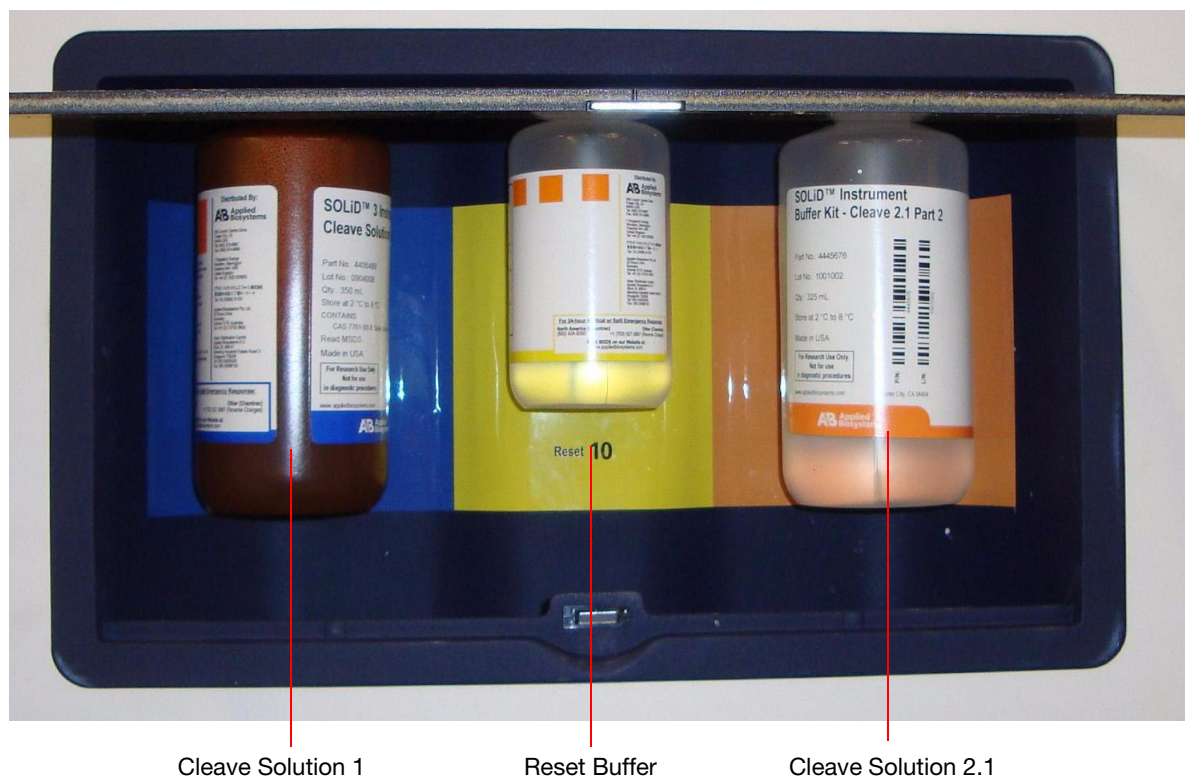

**Figure 12** Positions of buffers and waste in the cabinet.
4. After the chiller temperature is  $<10\text{ }^{\circ}\text{C}$ , install the prepared 1× Instrument Buffer and Storage Buffer into the appropriate positions in the cabinet (see Figure 12).